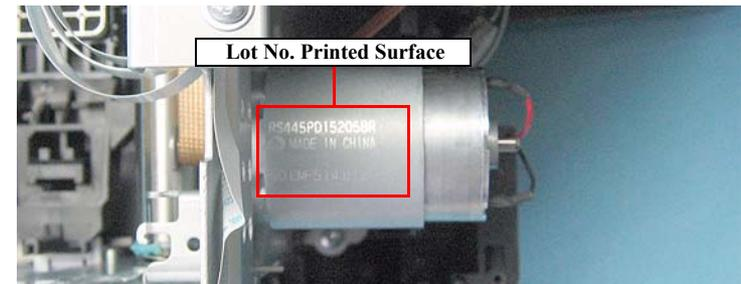

Figure 4-133. Installing the CR Motor
- Face the Lot No. printed surface of the CR Motor as shown in Figure 4-133.